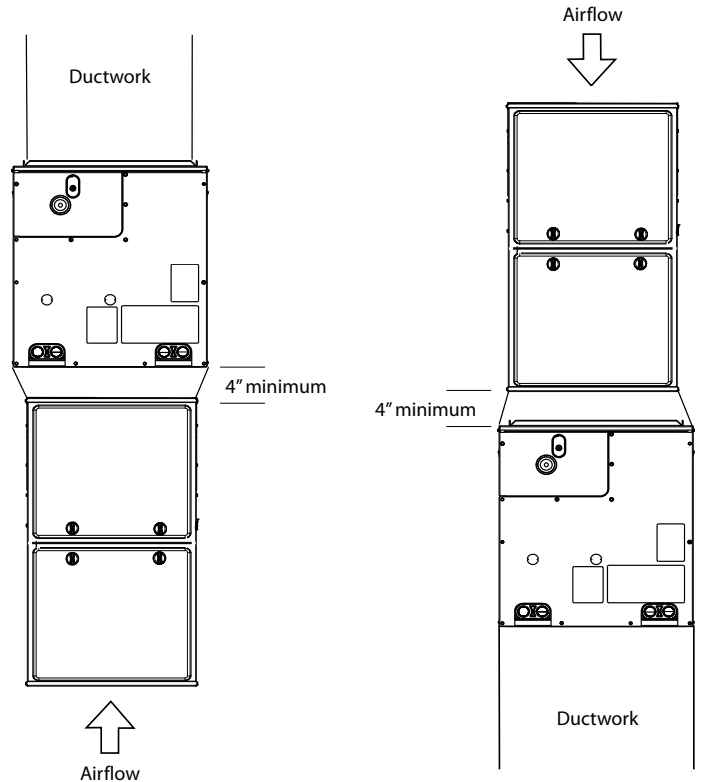

Fig. 3 – Adapter(s) Installation When Coil is Larger than Furnace A200228C
3. When installing wider coil on narrower furnace, it is recommended to use a transition adapter (Fig. 3).